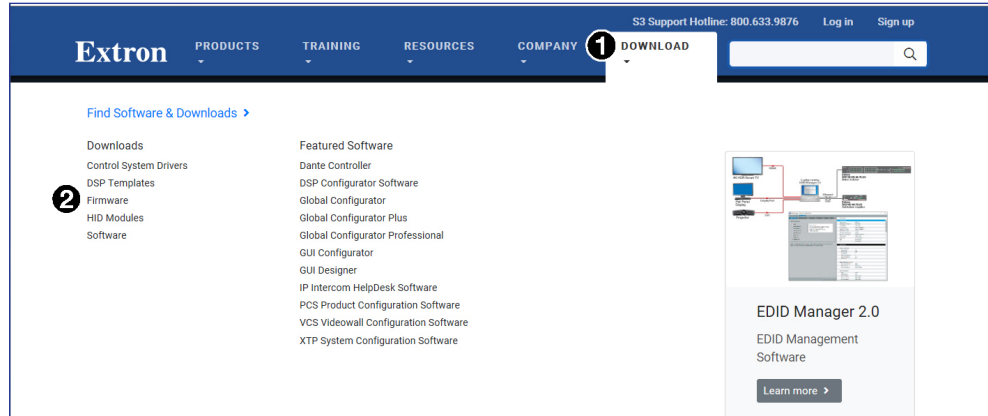

Figure 53. Download Tab
1. Go to www.extron.com, and mouse over the **DOWNLOAD** tab (see figure 53, ①).